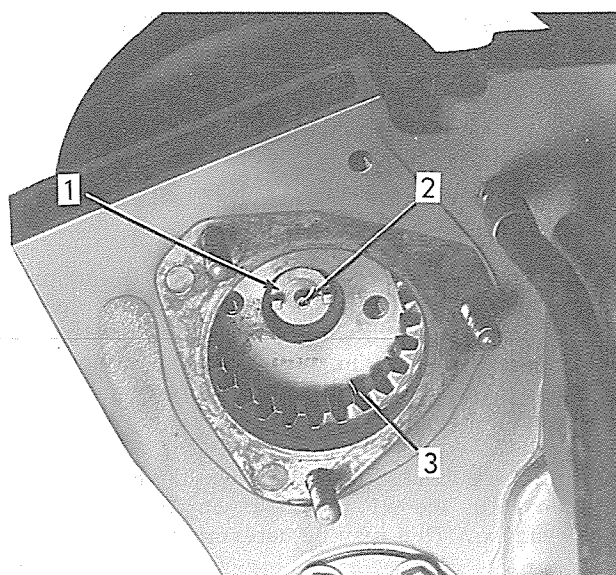

Fig. 28 — Pump Timing Shaft and Spring Installed (Used Only on Engines With Fan Drive Pulley) (T-29507)
When removing fuel injection pump, use care to prevent loss of coil spring located in end of pump timing shaft, Fig. 28.
- b. If for any reason the pump timing shaft, Fig. 28 (1), must be removed, it may now be pushed or driven, toward the rear, out of the fan drive gear hub.
- b. If pump timing shaft, Fig. 28 (1) was removed, install pump timing shaft using a new sealing ring. Insert coil spring (2) into position in end of the timing shaft.